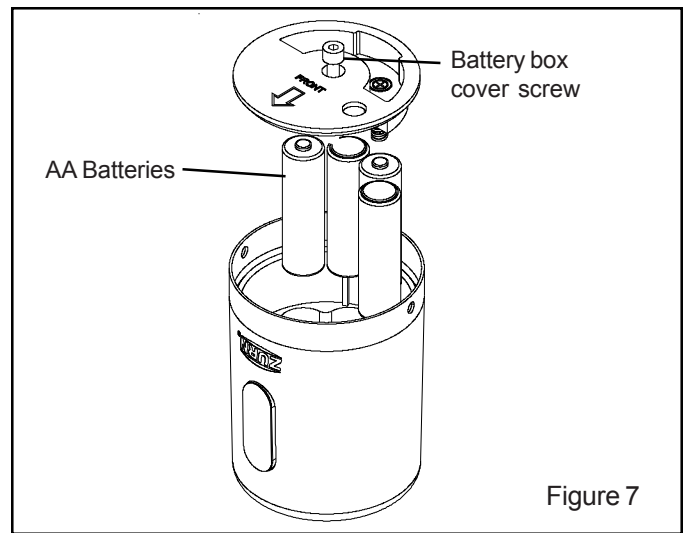

Figure 7
- Remove the top cover carefully and disconnect the solenoid connecting wire. The cover and battery case can now be accessed to install the AA cell batteries provided. **See Figure 7**
See Figure 7